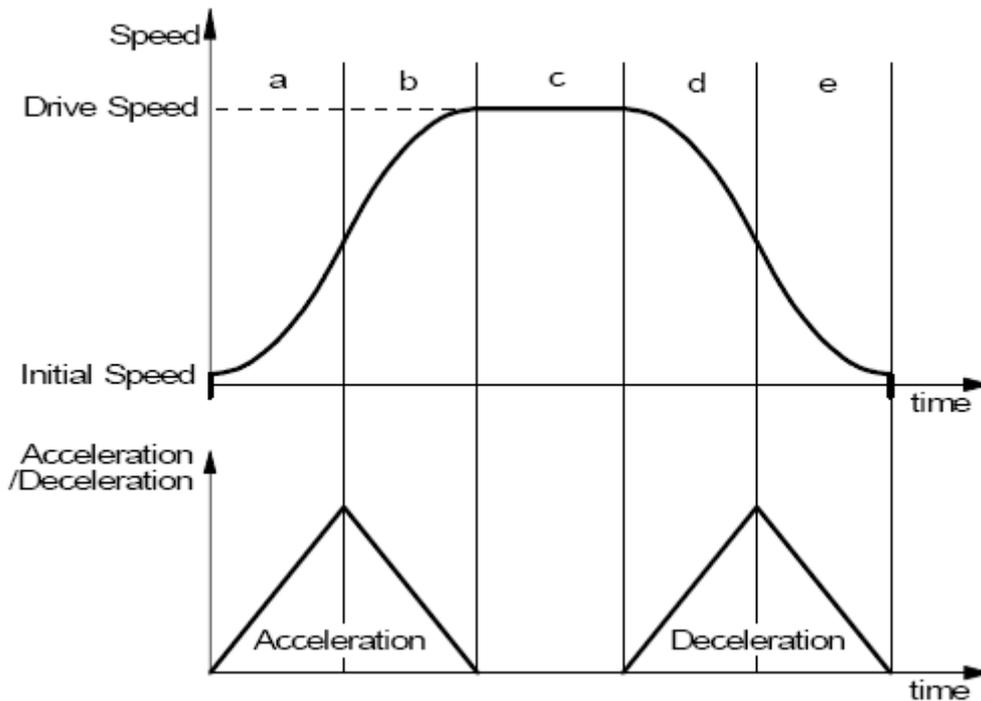

Fig.2.5 Symmetrical S-shaped Acceleration/Deceleration Driving
Fig.2.5 shows the operation of S-shaped acceleration/deceleration driving where the acceleration and the deceleration are symmetrical. When driving starts, the acceleration increases on a straight line at the specified jerk (K). In this case, the speed data forms a secondary parabolic curve (section a). If the difference between the specified drive speed (V) and the current speed becomes less than the speed that was utilized at the increase of acceleration, the acceleration starts to decrease towards 0. The decrease ratio is the same as the increase ratio and the acceleration decreases in a linear form of the specified jerk (K). In this case, the rate curve forms a parabola of reverse direction (section b).